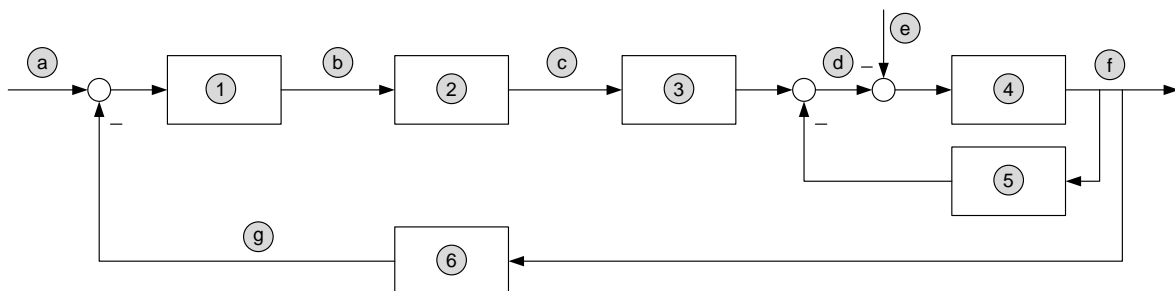

Figure 2.1: Control Structure of a two yoke magnetic bearing
- 2.5 The control structure for the position control of the magnetic bearing is sketched in Figure 2.1. Identify the blocks marked '1' to '6' and also the variables 'a' to 'g'. Explain **in detail** the function and the importance of the respective blocks!